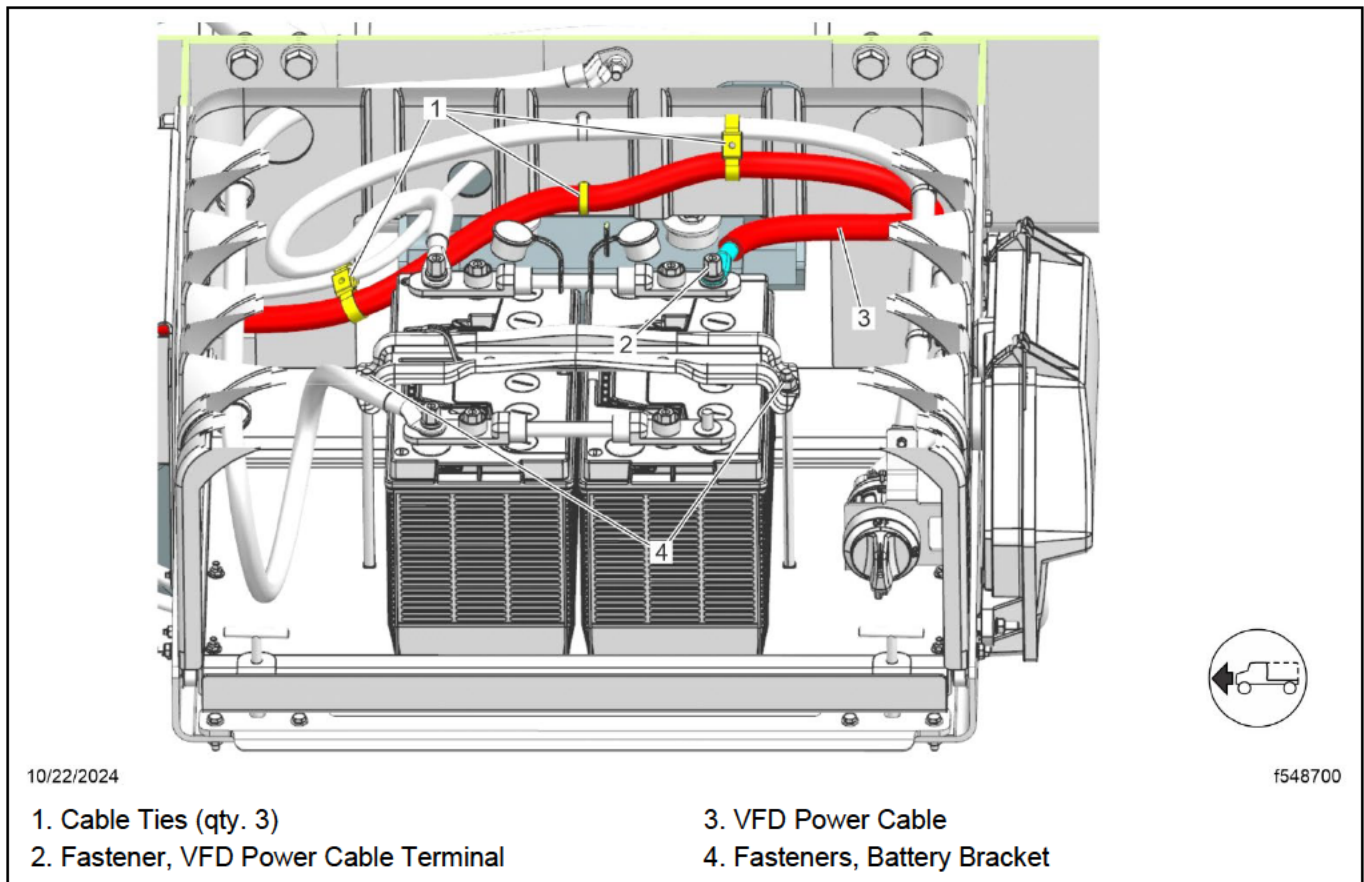

Fig. 2, Disconnecting the VFD Power Cable
6. Loosen the fastener and disconnect the Variable Frequency Device (VFD) power cable, items 2 and 3 in **Fig. 2**, from the 12V battery.
7. Loosen the fasteners, item 4 in **Fig. 2**, that keep the battery hold-down bracket in place, and remove the battery bracket.
9. Remove the VFD power cable clipping points, shown as item 1 in **Fig. 2**.